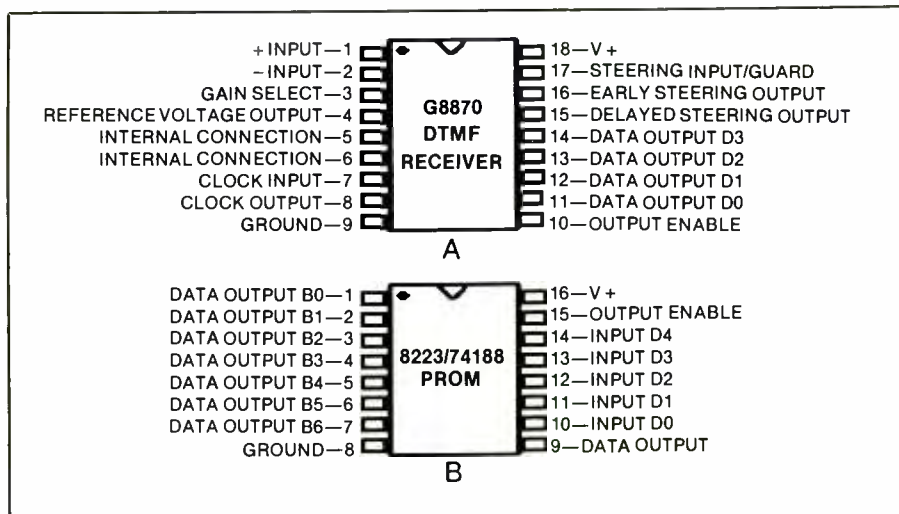

Fig. 4. Package configurations and pinouts for (A) G8870 DTMF Receiver and (B) 8223 or 74188 PROM.
3 (its case configuration and pin assignments are shown in Fig. 4). Considering the internal complexity of this chip, its retail price of about \$10 provides a very cost-effective way to go for designing and building inexpensive telephone-related projects.
The second task of IC2 is to correct a problem associated with the G8870 chip used for IC1. If you compare the pinouts of the G8870 given in Fig. 4(A) with those of the 74188 or 8223 used for IC2 in Fig. 4(B), you will see that the Data Output lines of the former are in reverse of those of the lat-